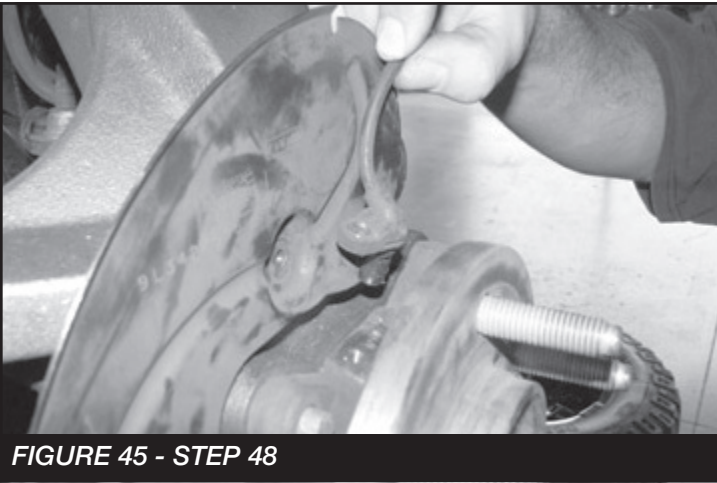

FIGURE 45 - STEP 48
48. Install the wheel speed sensor. Make sure the end of the sensor is clean. **SEE FIGURE 45**